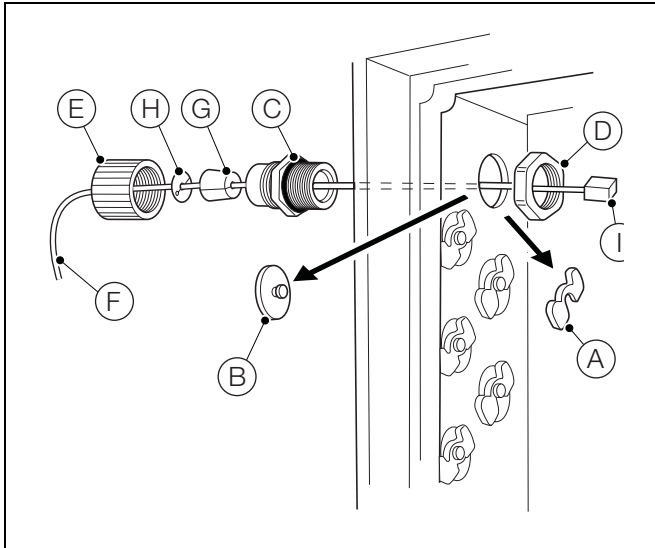
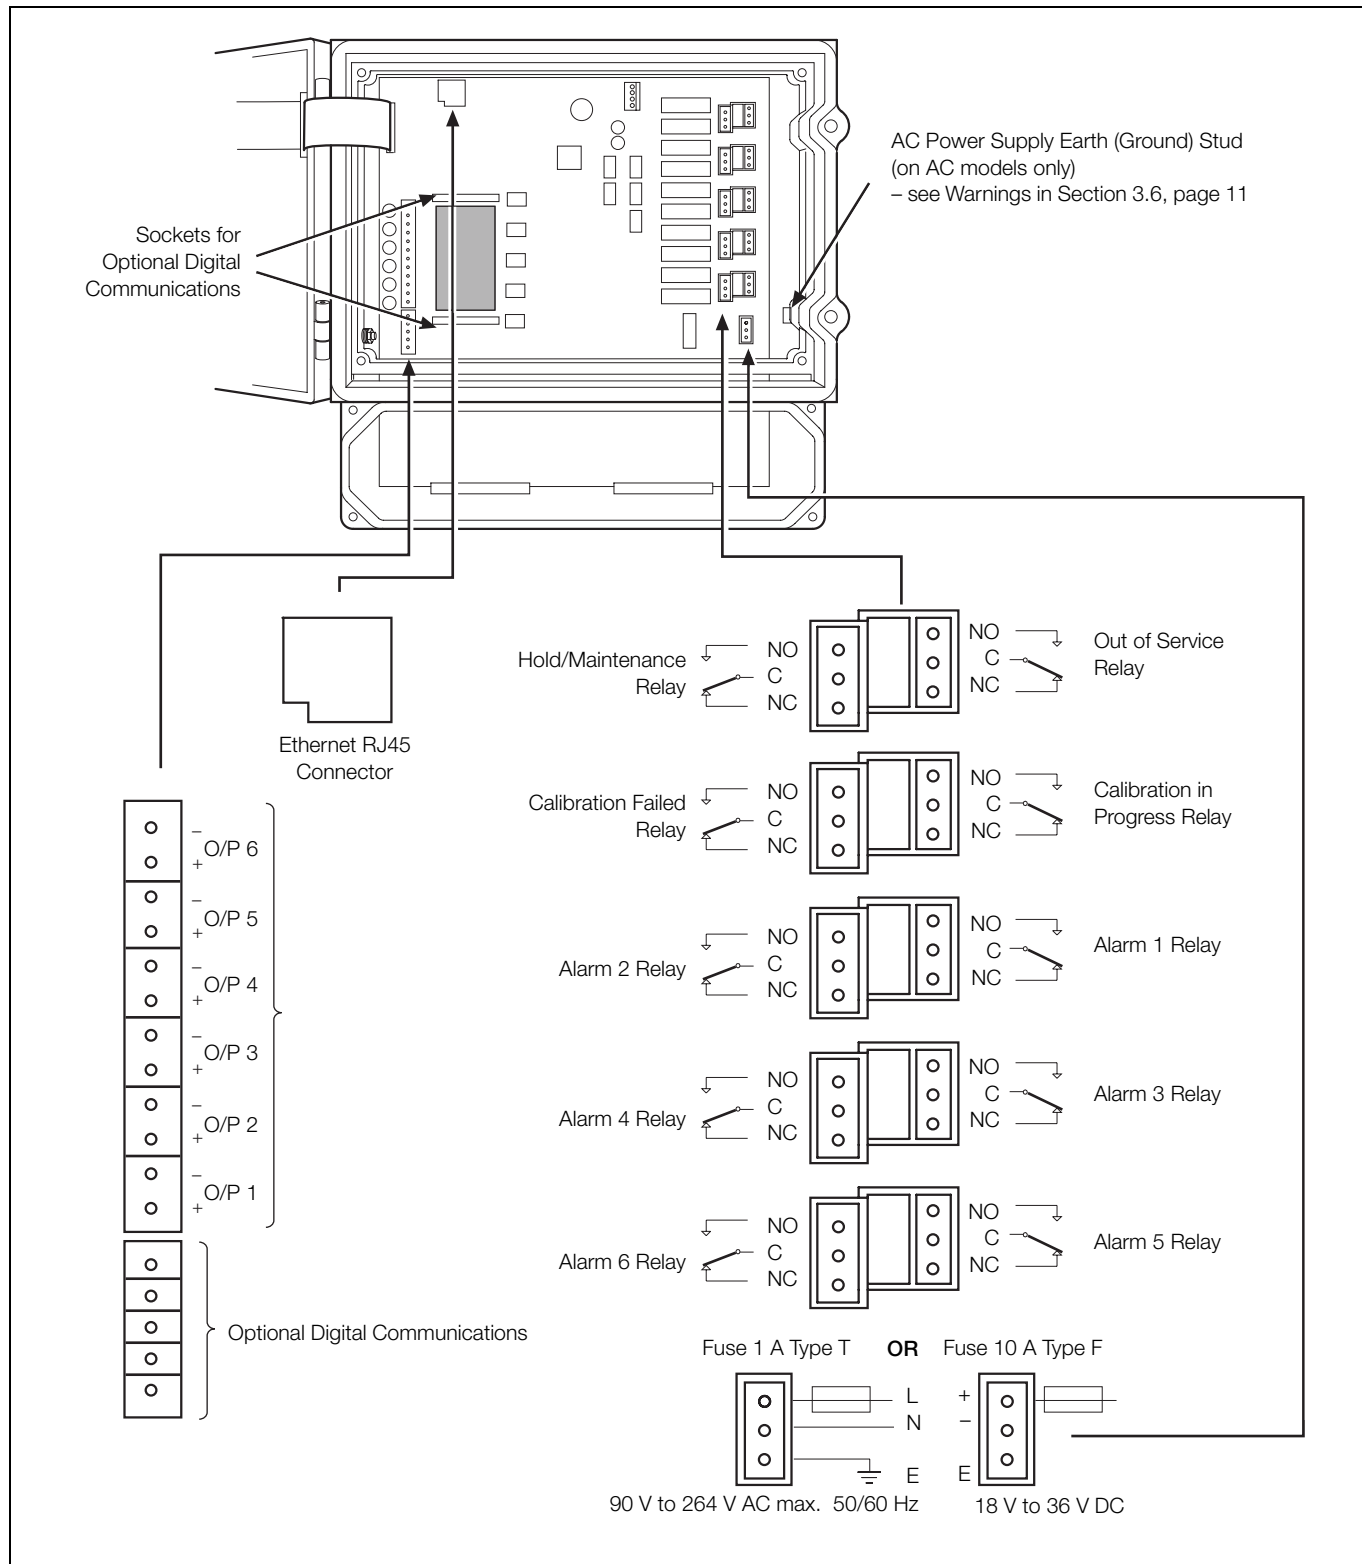

Fig. 3.6 Ethernet Connections
Fig. 3.8 Connections Overview
- Ensure the correct fuses are fitted – see Fig. 3.8, page 14 for fuse details.
- Application board connection labels for the terminal blocks are identified in Fig. 3.8 on page 14.
1. Turn the two electronics section door retaining screws (A) $\frac{1}{4}$ turn counter-clockwise and open the door.
2. Using a cross-head screwdriver, remove the four screws (B) and remove the transparent cover plate (C).
3. For each cable entry, slide retaining clip (D) off blanking plug (E) and remove the blanking plug.
4. Fit cable gland (F) and secure using nut (G).
5. Remove gland cover (H) and route cable (I) through the gland cover.
6. Route the cable through cable gland (F) and through the enclosure case.
7. Remove each terminal block connection plug (J) and, using a small flat-bladed screwdriver, make connections to each plug. Ensure wires are connected to the correct terminals – see Fig. 3.8, page 14.
9. Tighten gland nut (H) for each connection made.
11. When all the connections are made, replace the transparent cover plate (C) and secure using the four screws (B). Close the door to the electronics section and secure by turning the two door retaining screws (A) $\frac{1}{4}$ turn clockwise.
2. Referring to Fig. 3.6:
- a. Slide retaining clip (A) off blanking plug (B) and remove the blanking plug.
- b. Fit cable gland (C) and secure using nut (D).
- c. Remove gland cover (E) and route cable (F) through it.
- d. Fit the rubber split-bush (G) and split-washer (H) over the cable.
- e. Route the cable through cable gland (C) and into the enclosure case.
- f. Plug the RJ45 connector (I) into the Ethernet RJ45 connector socket on the application board (see Fig. 3.8, page 14 for location details) and tighten gland nut (E).